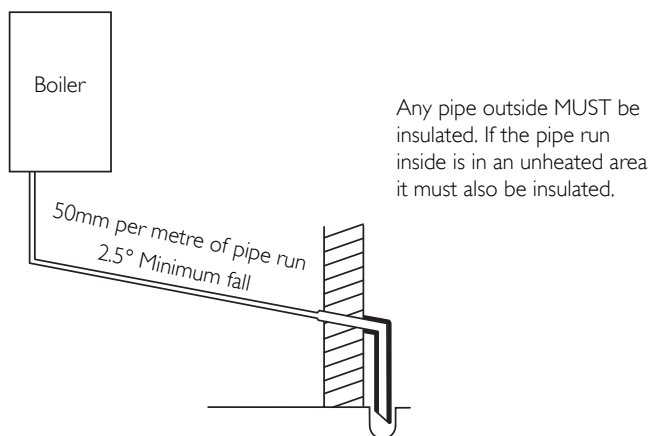

Fig. 5 Example of condensate drain system
11. It is important that the condensate drain system is not blocked, modified or damaged in any way as this would affect the operation of your boiler. Your installer should have insulated any exposed pipework (Fig. 5).